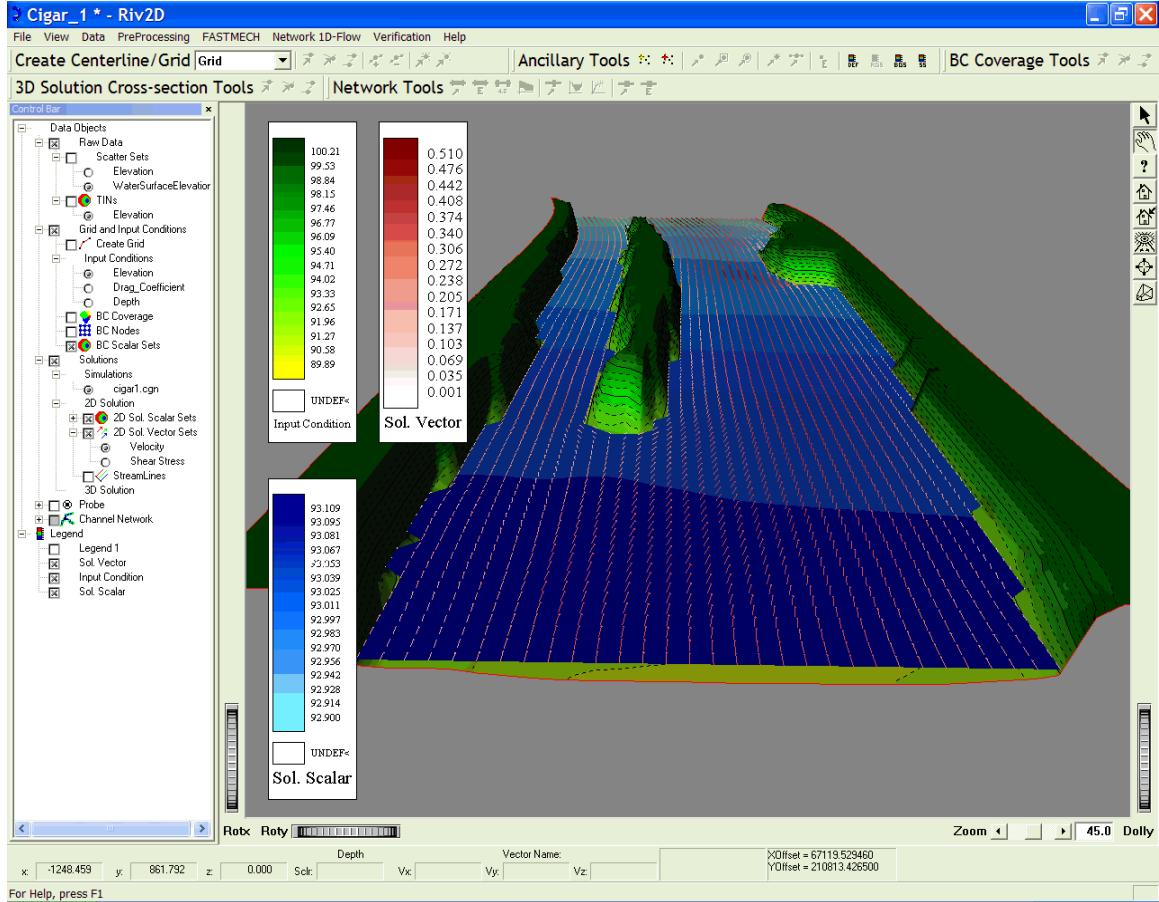

Figure 3.2.1v. An example of velocity vectors added to the water-surface elevation solution. All solutions are represented at the water-surface elevation.
- In the control bar turn on the **2D Solutions / 2D Sol. Vector Sets / Velocity** (fig. 3.2.1v).